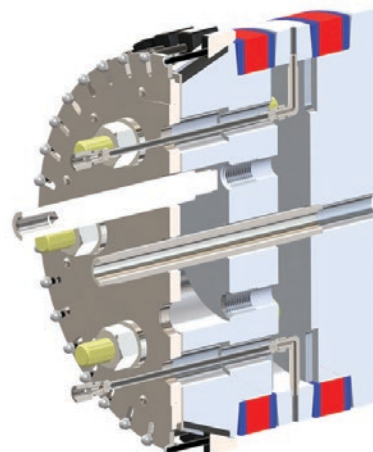

Figure 14: Inserting and Threading *Lifting Standoffs* in to the DBB Plug 14”+
- On GripSafe ST DBB 14”+, the internal threads for the lifting device are located between the *back pressure Vent Port*(19) and *Vent Hose Ports*(2) (see **Figure 14**).
- Insert the *Lifting Standoffs*(23) into the two holes through the *Spring Plate Hub*(20). Hand tighten both *Lifting Standoffs*(23) until they bottom out (see **Figure 14**).